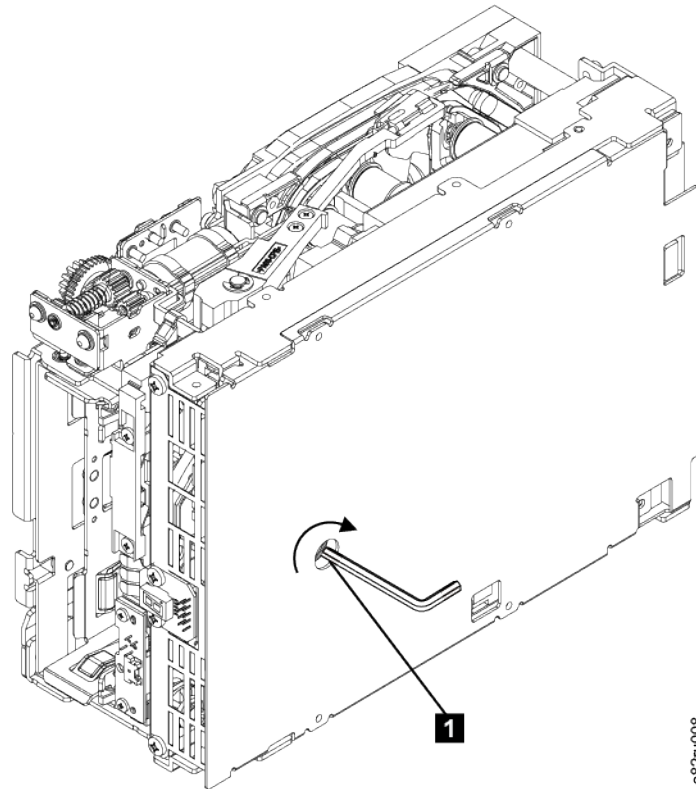

Figure 120. The hex wrench rewinds tape into cartridge
6. From the bottom of the drive, locate the access hole (**1** in Figure 120 on page 245) in the bottom cover. Insert a 2.5 mm offset hex wrench through the bottom cover access hole and into the reel motor axle. Begin spooling tape back into the cartridge by turning the hex wrench clockwise.